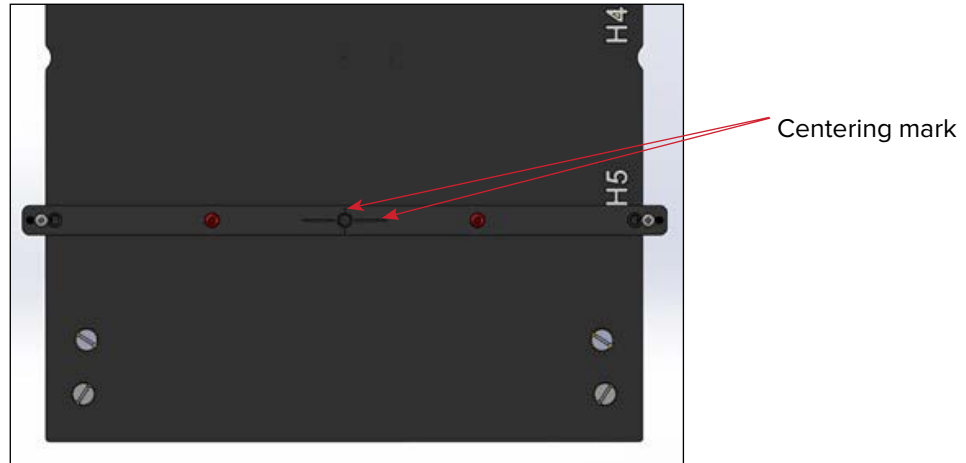

Fig. 15
3. Using the CT Laser alignment system, determine where the alignment beam hits the Centering mark on the Locating Bar (Fig. 15).